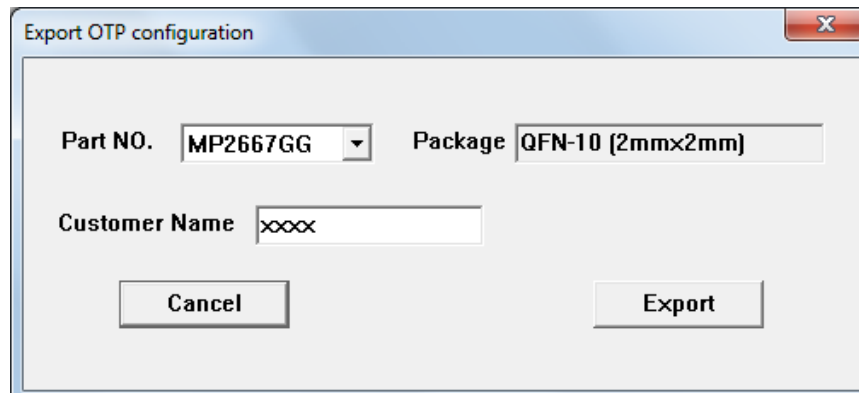

Figure 10: Select “Export”
5. Select values from the drop-down menus. Be sure all the parameters are populated before exporting. Export the configuration by clicking “Export” in the toolbar (see Figure 10).